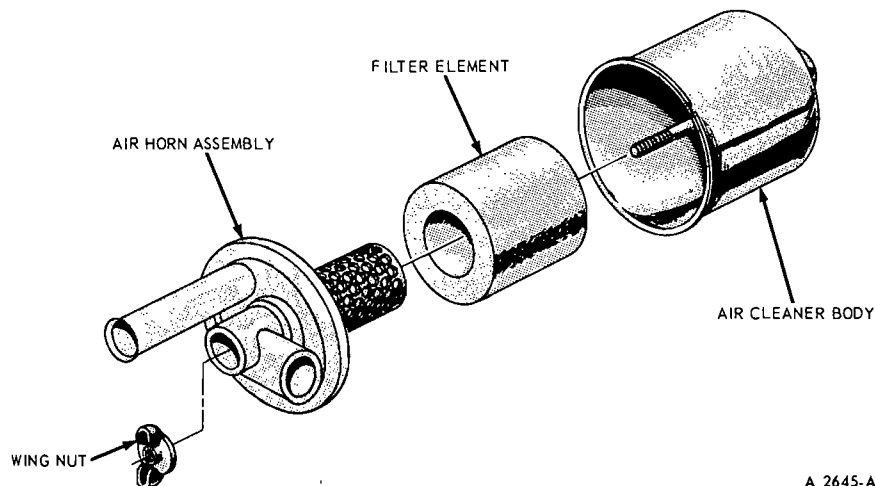

FIG. 18—Thermactor Exhaust Emission System Air Cleaner
1. Remove the wing nut (Fig. 18) and cover assembly. Remove the filter element from the cover assembly.
3. The filter element is not cleanable. Refer to 1967 Passenger Car Maintenance and Lubrication Manual for the recommended replacement interval. Place a new filter element on the cover assembly. Position the assembled cover and filter element in the air cleaner body. Be sure the tang is fitted in the slot (Fig. 18). Install the wing nut.